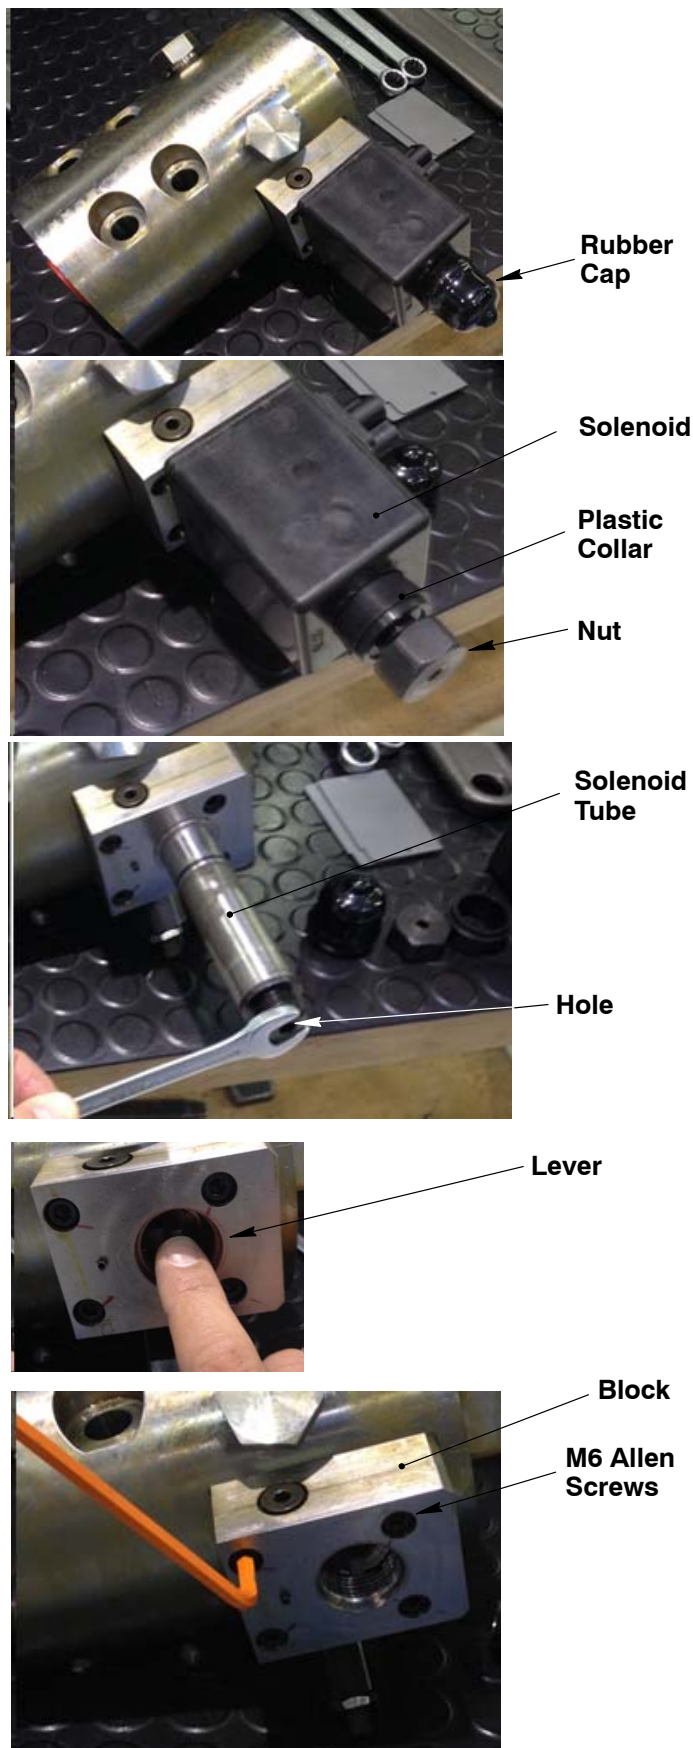

Fig. 2
4) Carefully remove the rubber cap (Fig. 2).
- 3) Put NeverSeez into the hole in the solenoid tube (see Fig. 1 and Fig. 2).